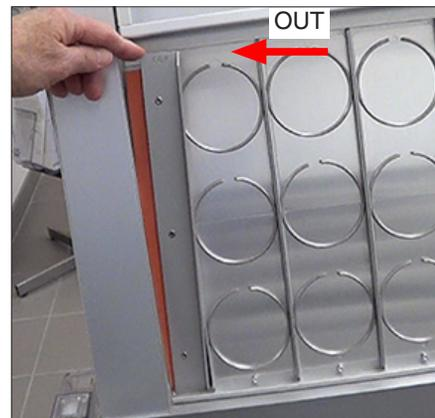

Figure 12.3q: Correct end seal installation.
- o Install the seals with the rubber strip against the end frame and the “OUT” arrow pointing away from the specimen holders (Figure 12.3q).